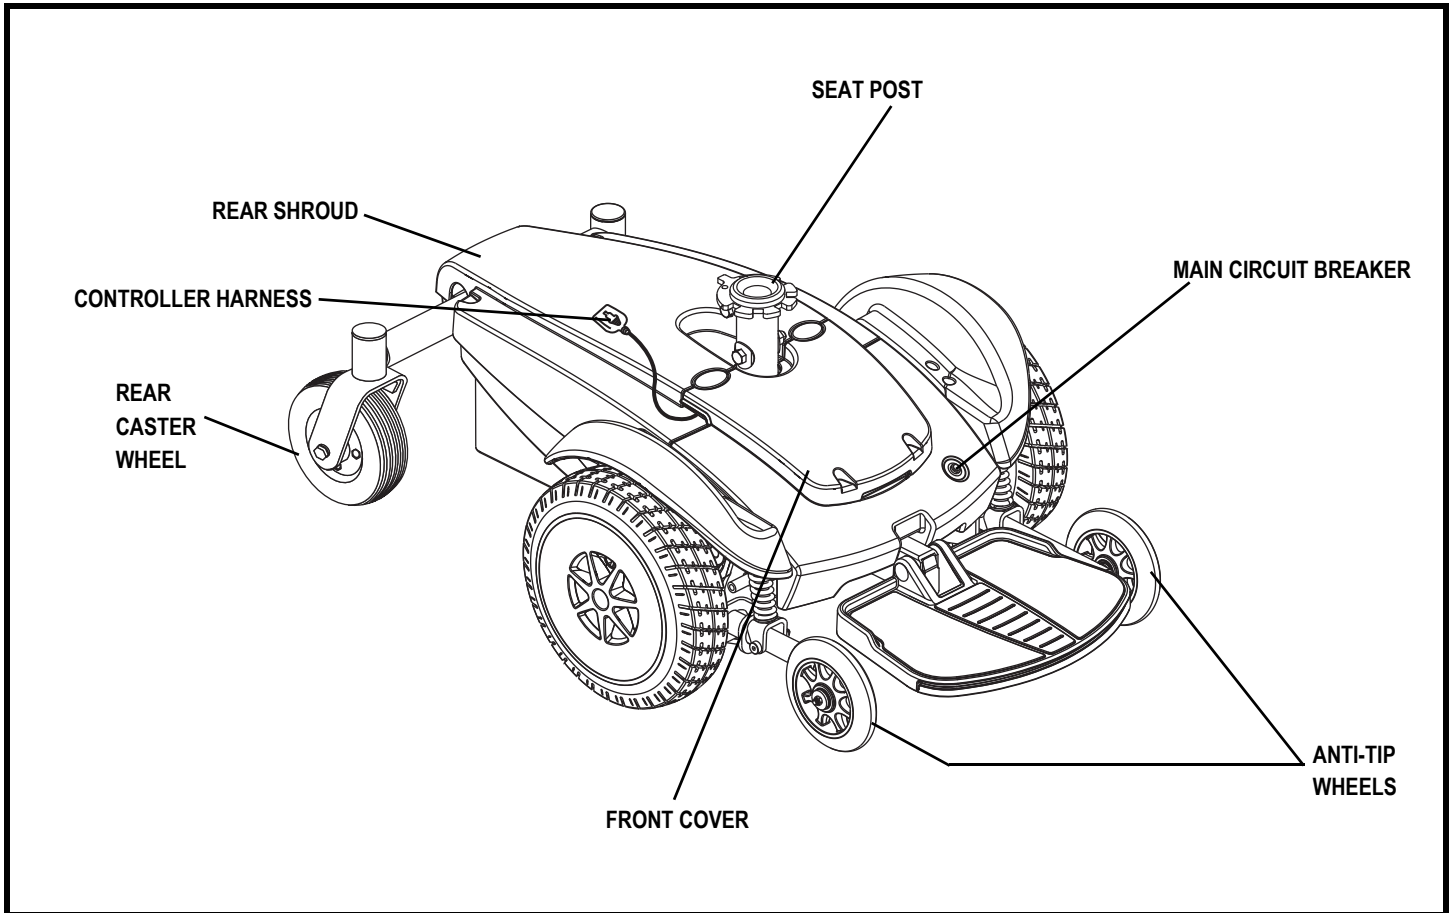

Figure 6. The Jazzy Select GT Power Base
5. Plug the controller harness into the connector on the power base. See figure 6.